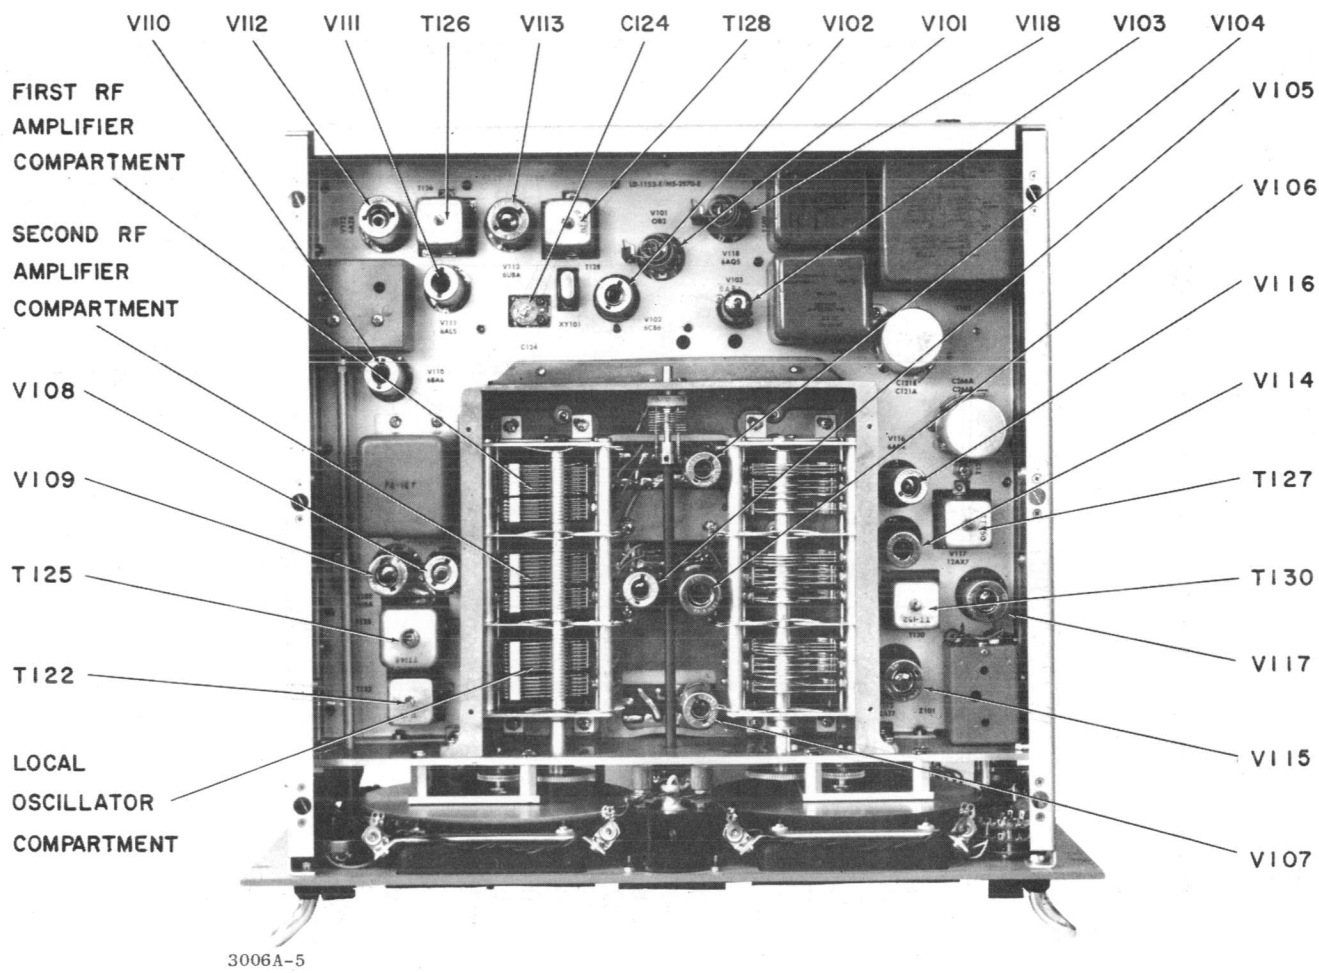

Figure 5-1. GPR-92A, Top View with Cover Removed
b. REPAIR. - In most cases, the repair of the GPR-92A will consist of the replacement of an electron tube or a simple electrical component; in these cases, no special instruction is required. (See figures 5-1 and 5-2.) However, the following hints are provided to ensure that the repairs are completed properly.
- (1) Always replace a defective component with its exact duplicate.
- (2) Always place a new component in the same position occupied by the one it replaces. In general, never change the existing chassis layout, whether it is wiring or component placement.
- (3) Never use a soldering iron with a rating of more than 100 watts. Use a pair of long nose pliers as a heat sink to protect components while soldering.
- (4) Be extremely careful when replacing components on printed circuit boards. Excessive heat applied to a board will cause the printed wiring to lift off.
- (5) Always double check any solder joints made. Cold or loose solder connections can cause trouble at a later time.
(6) Be sure to replace all shielding plates when reassembling the GPR-92A. Occasionally, replacement procedures and some of the electrical-part replacements are not obvious. These are provided on the following pages.